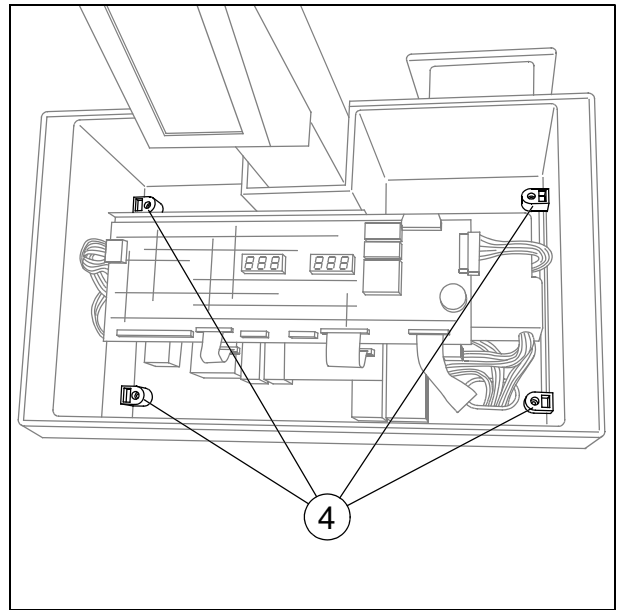

Fig. 5
- Remove the four screws of the top housing (4/Fig. 5)